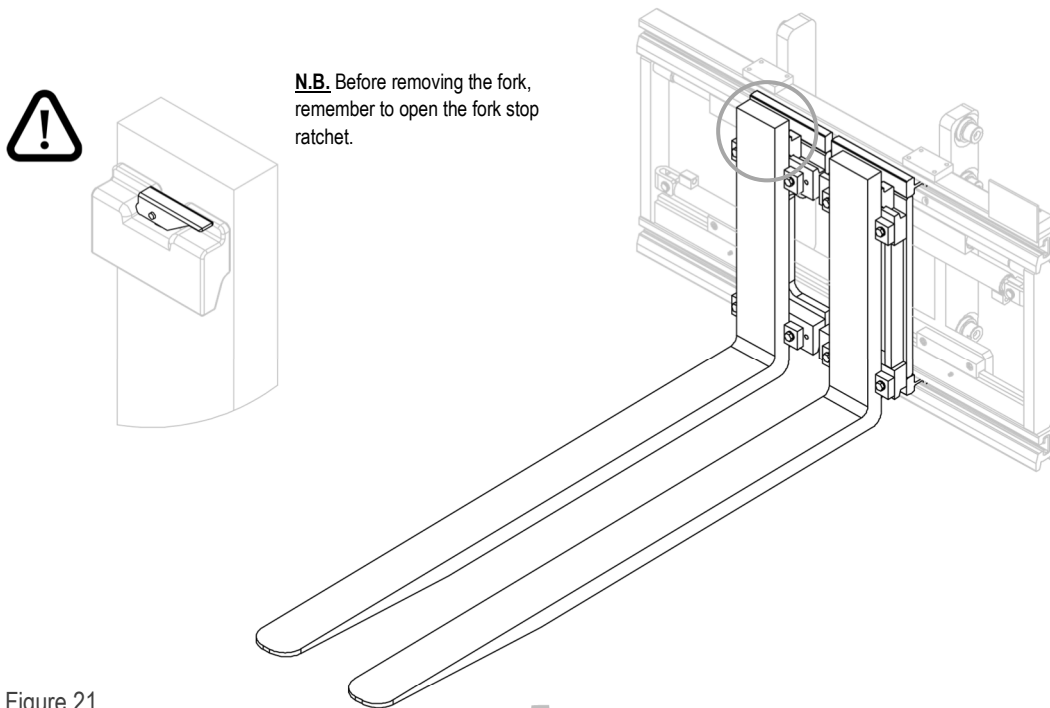
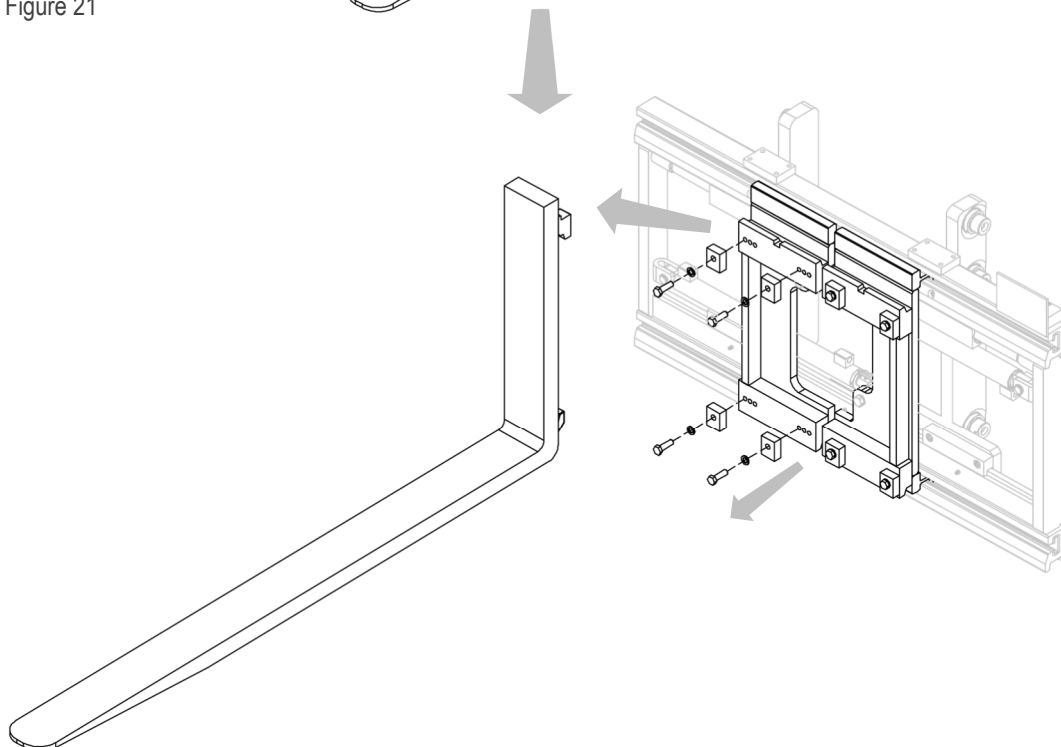

Figure 21
Figure 22
2. Remove the forks after removing the relative fork stops (see *Figure 21* and *Figure 22*).